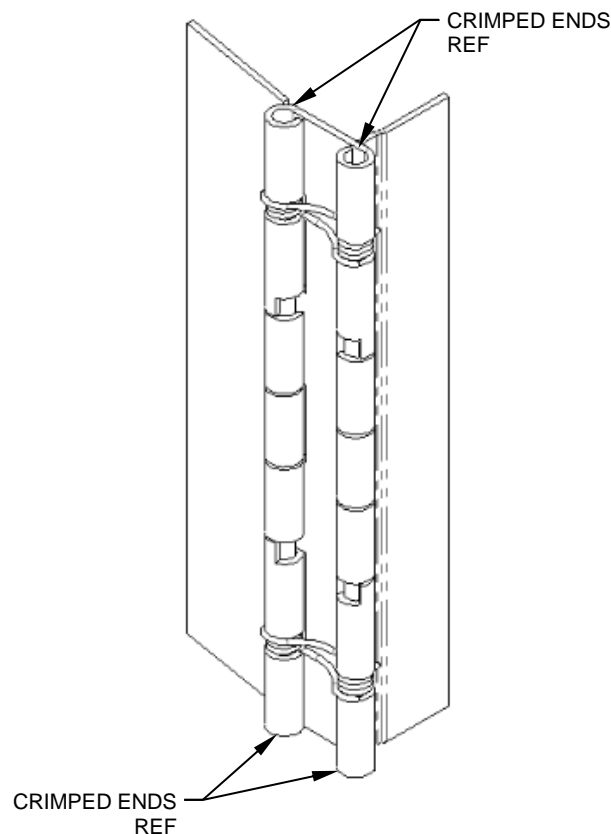

Figure 1
2. Using a pin punch, remove the OEM hinge pins and torsion springs. Reference Figure 1. Discard the old pins and springs.